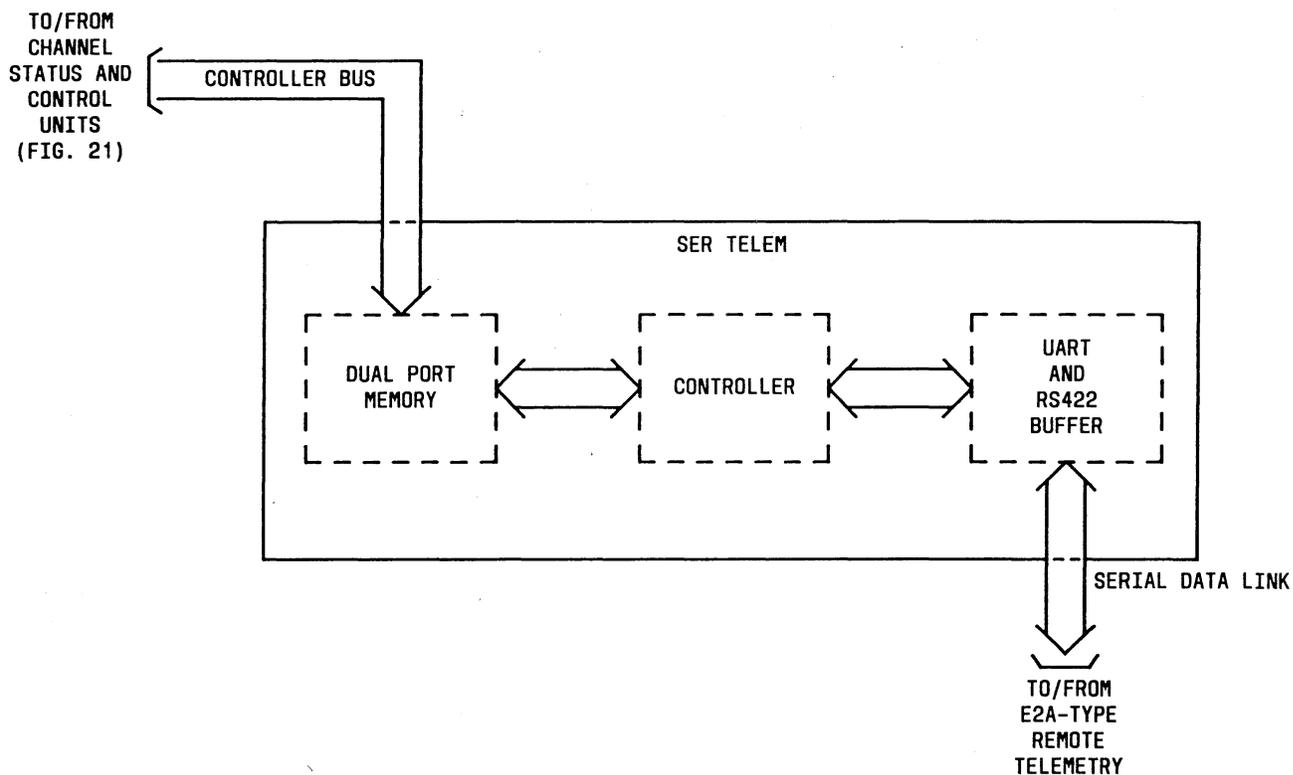

Fig. 22—TBOS AS&C Telemetry
- Figure 22—TBOS AS&C Telemetry